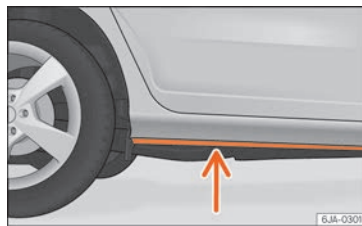

Fig. 220 Driving through water.
- Determine the depth of the water before entering. Water can reach a maximum height of below the door sill **» Fig. 220**.